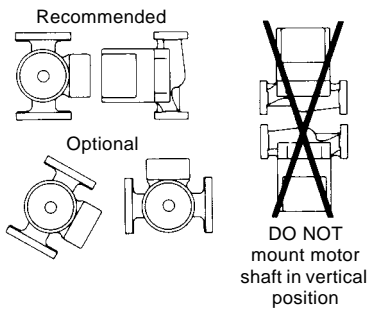

Fig. 1 Terminal box orientation
- 107 °F (42 °C) with control module vertical (see fig. 1)
- 105 °F (41 °C) with control module on top of pump and horizontal (see fig. 1)
- 105 °F (40 °C) with control module vertical (see fig. 1)
- 92 °F (33 °C) with control module on top of pump and horizontal (see fig. 1)
The pump must be installed with the motor shaft positioned horizontally. Under no circumstances should the pump be installed with the shaft vertical or where the shaft falls below the horizontal plane. See fig. 1.